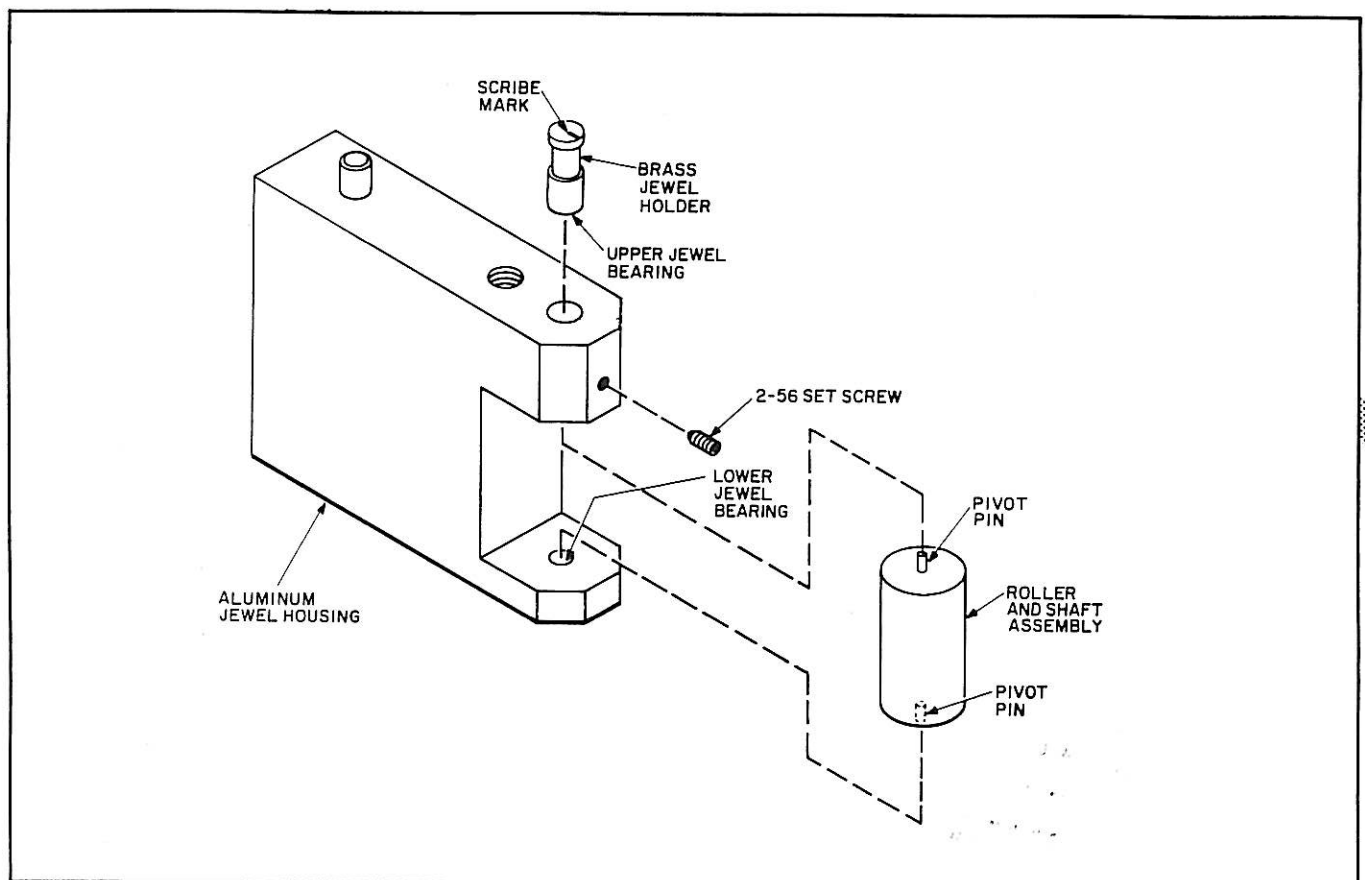

Figure 7-13 Scrape Filter Disassembly
Step 1. Scribe a mark on the brass jewel holder parallel with the center line of the set screw as shown in figure 7-13 to indicate the correct orientation of the holder. Some scrape flutter filters may already have this scribe mark.
Step 2. Remove the roller and shaft assembly. See figure 7-13.